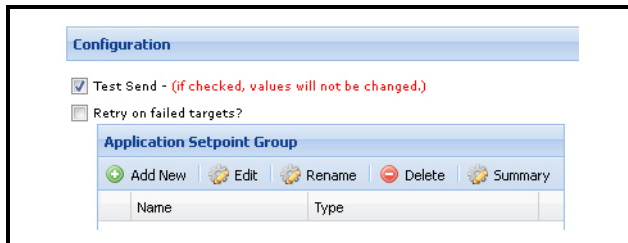

Figure 4-60 - Test Send Checkbox
**Test Send** checkbox: (When Setpoint Broadcast is set as the type of Schedule) When this box is checked, a Test Send will perform all steps of an actual setpoint broadcast (except it will not actually execute the send). The message in red (as shown in **Figure 4-60**) next to the **Test Send** checkbox will notify the users that selecting the checkbox will not actually send the values.